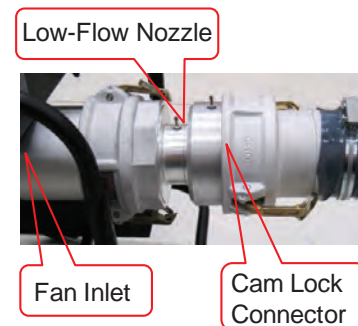

Figure 9. Negative Pressure, Low-Flow Set-Up
- d. For negative pressure, low-flow testing, add the low-flow nozzle to the blower inlet if it is not installed. Then, connect the gray cast aluminum cam lock connector to the low-flow nozzle per Figure 9. Close both cam lock arms at the same time to ensure proper fit.